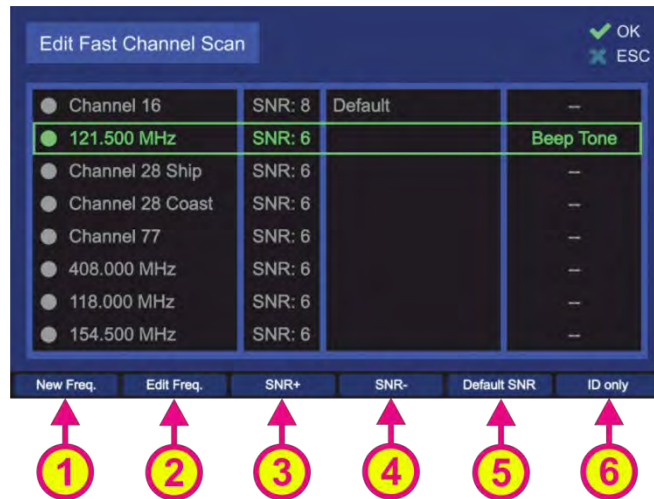

Figure 37. Fast channel scan settings
- Pressing the hotkey “Edit Scan” (s. Figure 35, position 4) will open the dialog for changing the settings of the fast channel scan (s. Figure 37)
- Pressing the hotkey „ SNR+” (s. Figure 37, position 3) will increase the SNR value of the currently marked frequency by 1%.
- Pressing the hotkey „ SNR-” (s. Figure 37, position 4) will decrease the SNR value of the currently marked frequency by 1%.
- Pressing the hotkey “Default SNR” (s. Figure 37, position 5) will set the SNR value of the currently marked frequency to the default value, which can be defined on the “Setup” page (s. 7.4.3.11).
- Pressing the hotkey “ID only” (s. Figure 37, position 6) activates or deactivates the feature “ID Only” with two possible settings: